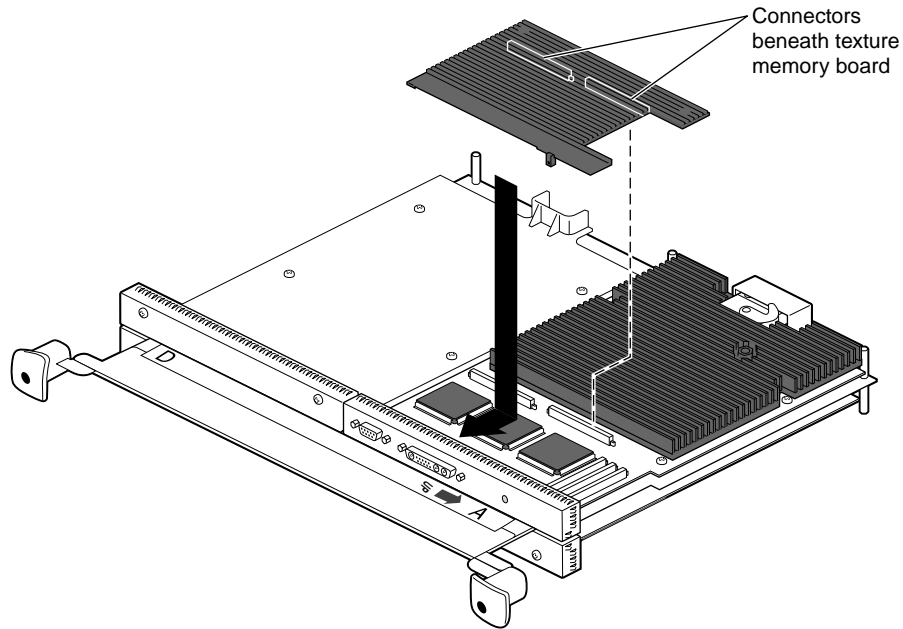

Figure 5-34 Installing the Texture Memory Option Board on the OCTANE/SI Graphics Board
1. Align the texture memory option board above the graphics board as shown in Figure 5-34.